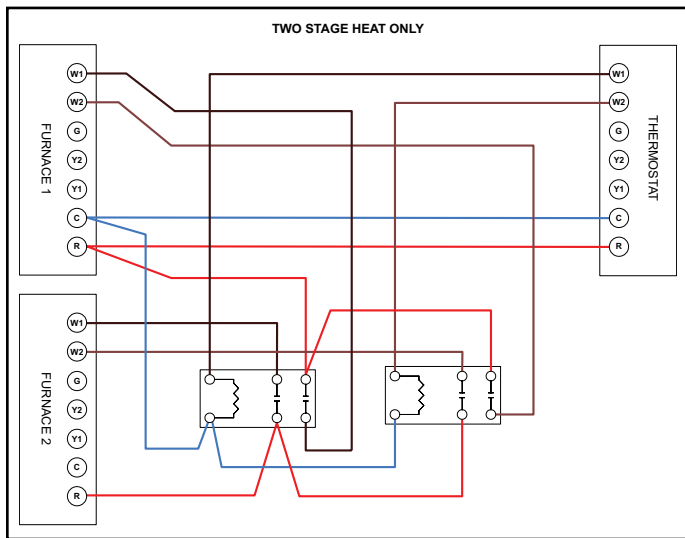
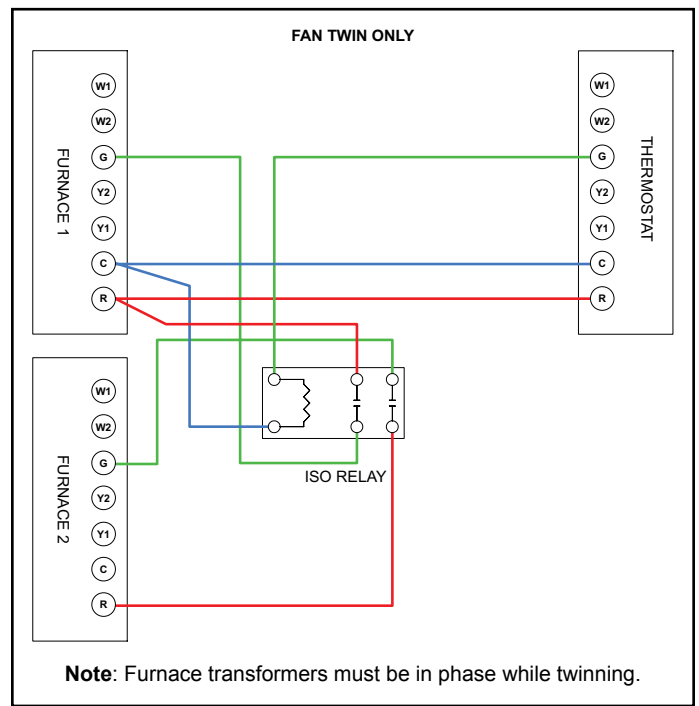

Figure 4.
Figure 6.
2. Connect the thermostat with Furnace 1, Furnace 2, and the DPST relays as shown in Figure 4 through Figure 6. Use the female quick connect terminals supplied in kit and the proper length of 18 gauge wire (field supplied) to complete wiring.